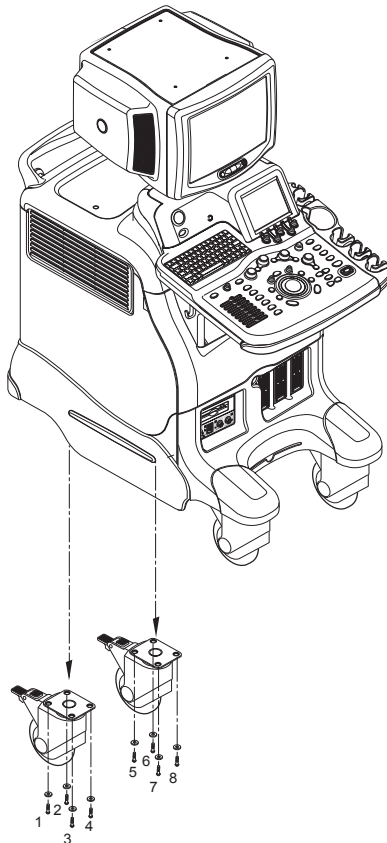

Figure 8-109 Removing the Rear Caster
- 2.) Remove the Rear Caster. Refer to Figure 8-109 on page 8-59 .